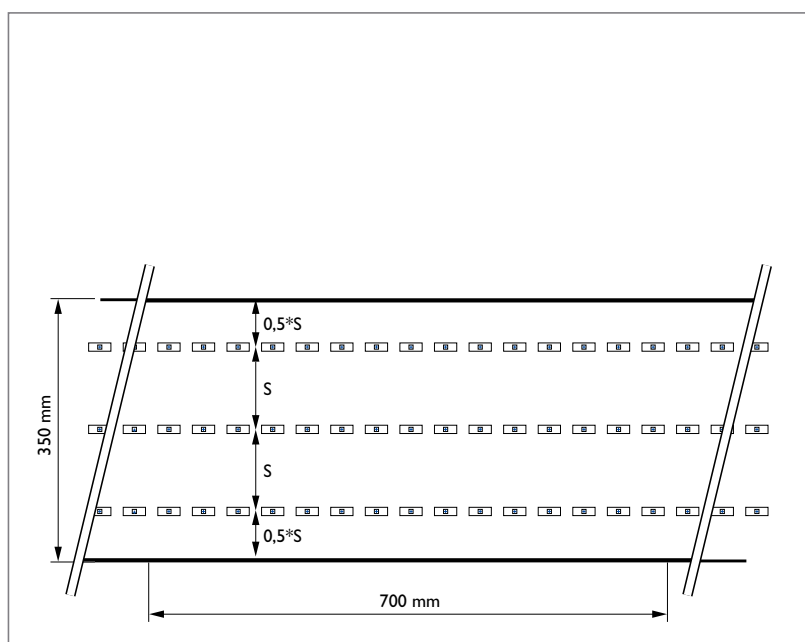

Fig. 38 Lines of application
5. Figure 38 shows an example of a band-light featuring blue LED string sections. For the best uniform result, always balance the LED strings over the necessary drivers.